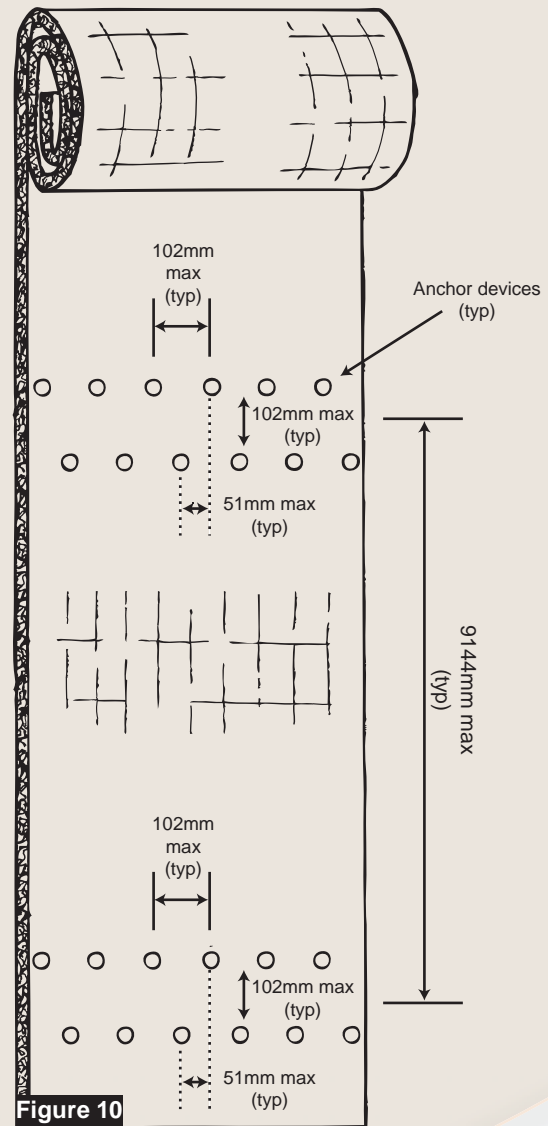

Figure 10
- An alternate method to the intermittent check slot is the simulated check slot. This method includes placing two staggered rows of anchors on 100 mm centers at 9.1 m intervals (see Figure 10).